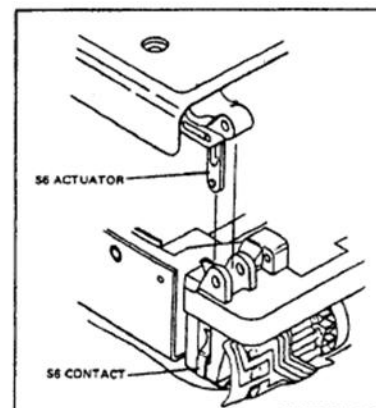

FIGURE 4-16 LOCATION OF S6 ACTUATOR LINK
3. Lower the housing so that the free-hanging actuator passes through the cutout in the inner-frame assembly toward the S6 contacts (see Figure 4-16).